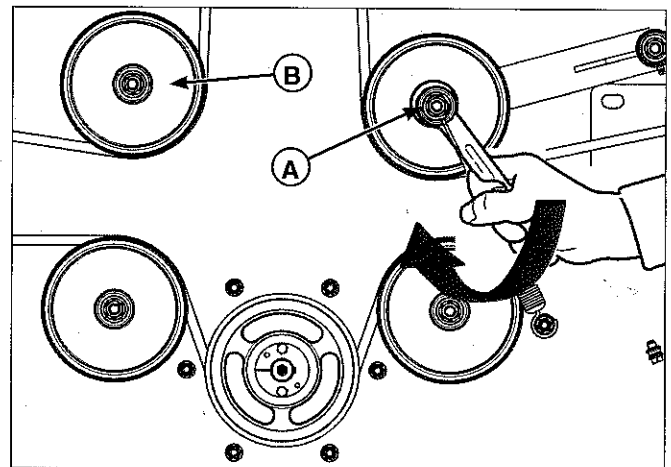
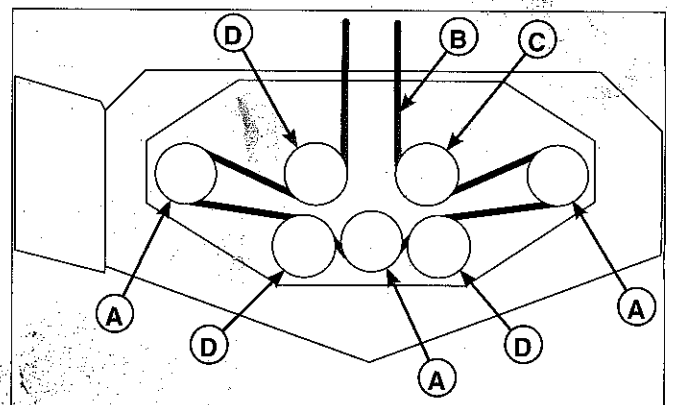

Figure 52. Mower PTO Belt (72" Mower Deck)
Figure 53. Mower PTO Belt Routing
2. **For 72" deck:** Using a 3/4" combination wrench, place the box end on the nut (A, Figure 52) securing the idler pulley located in the end of the idler arm. Carefully rotate the wrench **CLOCKWISE**, which will relieve the tension on the belt exerted from the idler arm.
3. Slide the drive belt over the edge of the stationary idler pulley (B). Carefully release the tension on the breaker bar or combination wrench until the idler arm comes to a stop.
4. Remove the old belt and replace with a new one. Make sure the V-side of the belt runs in the pulley grooves (Figure 53).
5. **For 72" deck:** Install the drive belt on the PTO pulley, the spindle pulleys and all idler pulleys except the stationary pulley (B, Figure 52). Carefully rotate the combination wrench **CLOCKWISE** and install the belt on the stationary idler pulley (B). Carefully release the tension on the combination wrench.